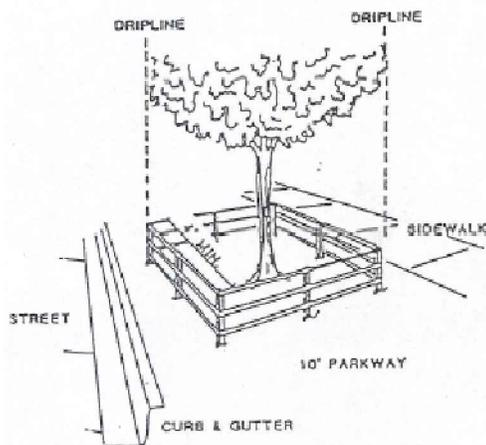
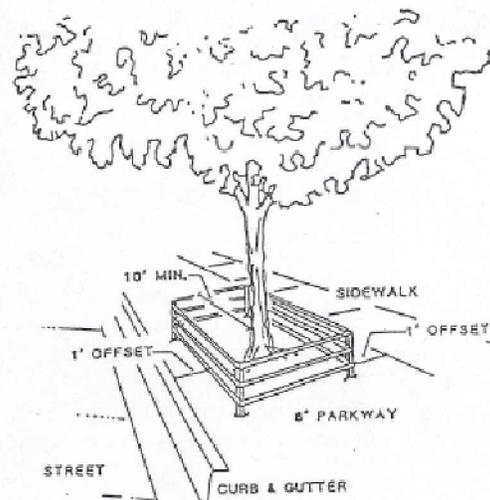

FIGURE 1 - SMALL TREES
FIGURE 2 - MEDIUM TO LARGE TREES
Shrubs and small trees shall be boxed or fenced in such a manner as to encompass the entire drip line area of the tree (Figure 1). In no case shall the enclosure be less than two (2) feet from the center line of the tree. Medium to large trees shall be boxed or fenced in a manner to encompass as much of the drip line area of the tree as possible as determined by property and right of way boundaries (Figure 2). In no case shall the protective device be closer than ten (10) feet from the center line of the tree except in those portions bordered by the public sidewalk or curb, in which case the protective device shall be offset one (1) foot wherever possible.